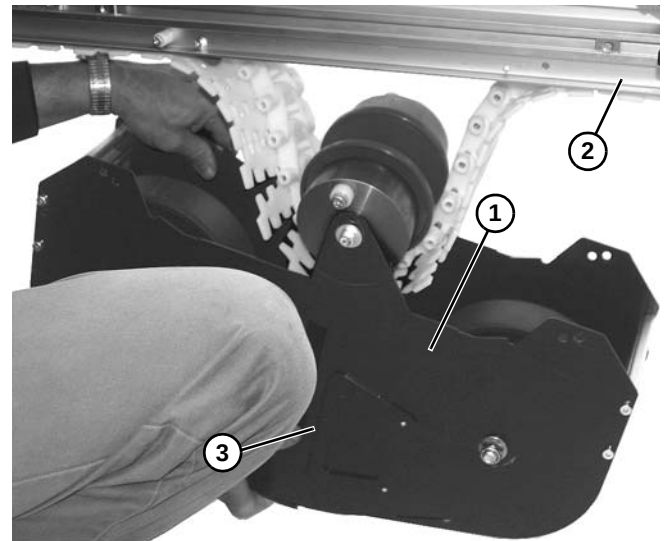

Figure 93
2. Lower weighted take up assembly (**Figure 93, item 1**) from conveyor (**Figure 93, item 2**) by disengaging locking teeth (**Figure 93, item 3**) on both sides.